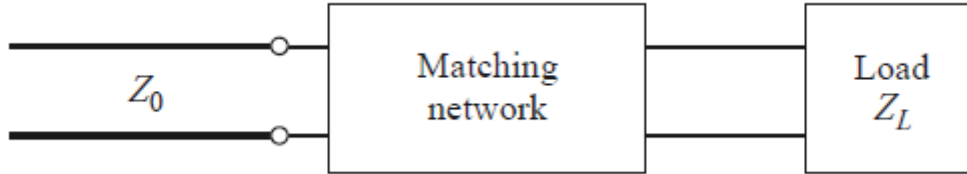

Figure 1
- The basic idea of impedance matching is illustrated in Figure 1, which shows an impedance matching network placed between a load impedance and a transmission line.